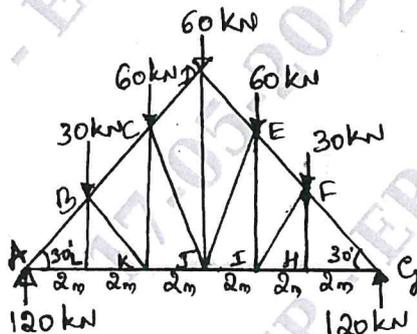

Fig Q3
- 3 The line diagram of a truss with loads and tabulation of factored member forces are shown in the Fig Q3. Design the various members of the roof truss along with their end connections with gusset plates by bolts. Assuming the thickness of supporting walls as 450mm, design the supports consisting the shoe angle bearing plate, base plate by considering support reaction and anchor bolts for an uplift force of 15kN at each support. The bearing pressure of concrete may be taken as 4N/mm^2 . [Refer Fig. Q3 and Table Q3]